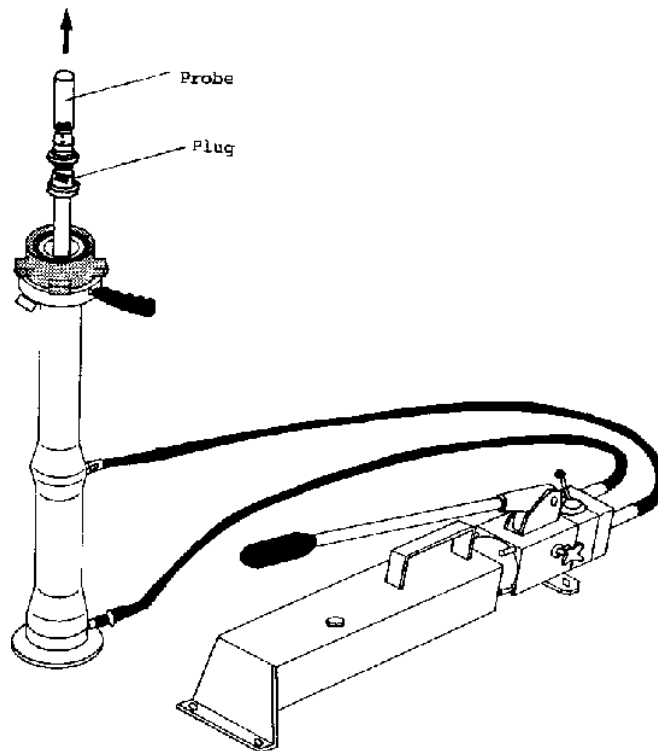

Fig. 10
26. Place the retriever with the opening up, and set the pump to "INSTALL". Pump the plug / probe assembly out of the retriever. The probe and plug can now be inspected and serviced or replaced (fig. 10).